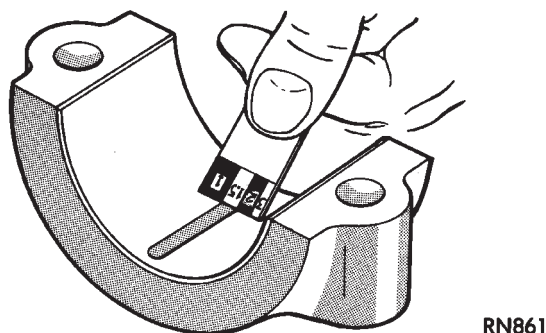

Fig. 3 Clearance Measurement
(2) Remove the bearing cap and compare the width of the flattened Plastigage with the scale provided on the package (Fig. 3). Plastigage generally comes in 2 scales (one scale is in inches and the other is a metric scale). Locate the band closest to the same width. This band shows the amount of clearance. Differences in readings between the ends indicate the amount of taper present. Record all readings taken (refer to Engine Specifications).